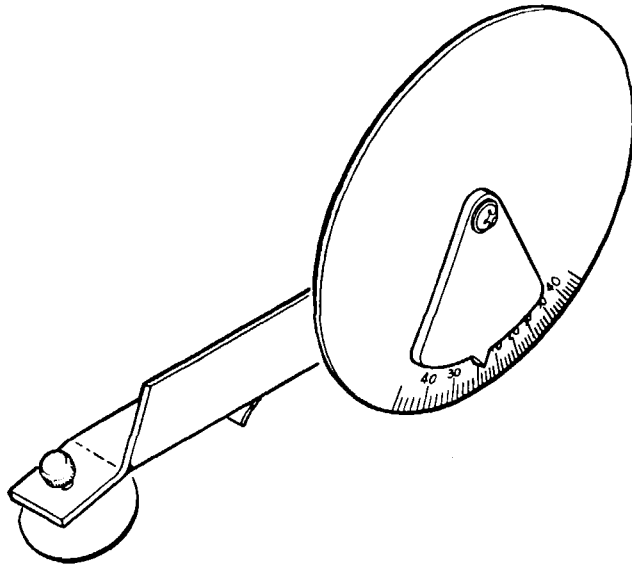

Figure 6-4. Inclinometer for Measuring Control Surface Travel
g. With ailerons in neutral position (streamlined), mount an inclinometer on trailing edge of one aileron and set to 0° . (Refer to figure 6-4 for inclinometer.)
An inclinometer for measuring control surface travel is available from the Cessna Service Parts Center. Refer to figure 6-4.